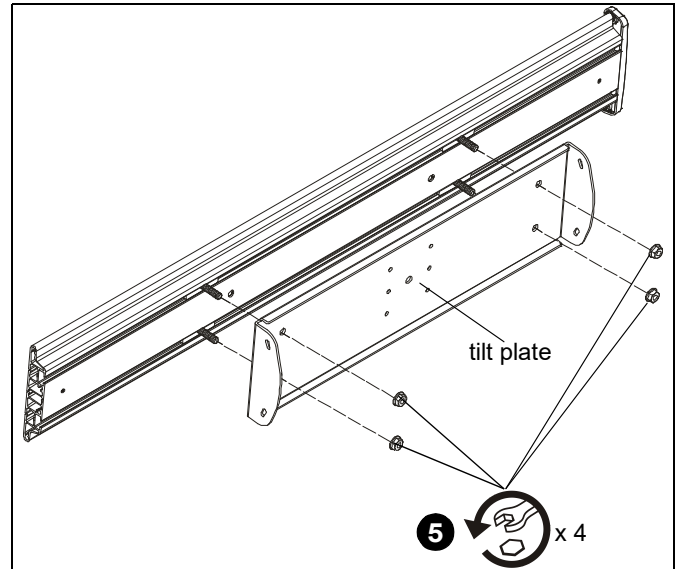

Figure 3
5. Remove four nuts holding interface head assembly to XP1AU/XFA1U column assembly to remove head assembly. (See Figure 3)